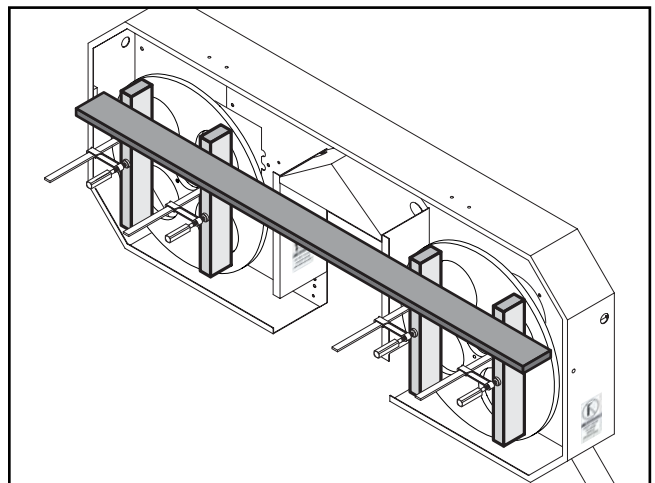

Figure 46. Straightedge placement when checking the upper portion of the wheels.
6. Place the straightedge across the top of the gauge blocks, as shown in **Figure 46**, and examine how the wheels line up with each other.